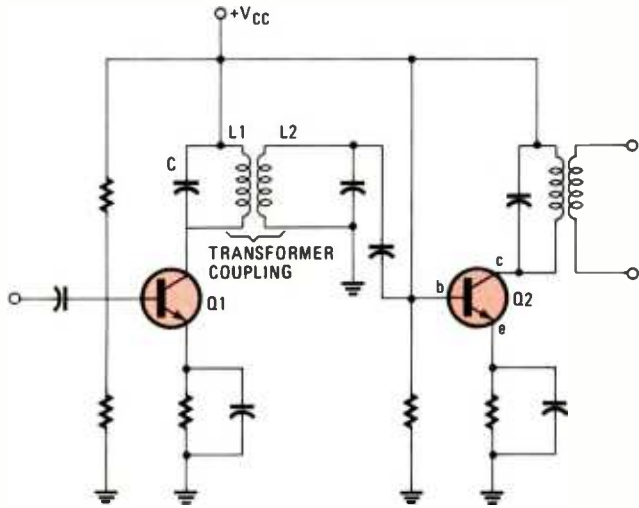

Fig. 16—RF amplifiers use tuned circuits to set the operating frequency and bandwidth. Transformer coupling is used between stages.
38. (2700) The frequency response of many amplifiers is deliberately controlled to pass signals only in a desired range. Amplifiers can be combined with low pass, high pass, band pass, or notch filters to set the bandwidth. Amplifiers that are used to amplify RF signals usually have built-in tuned circuits to amplify only signals in a narrow range of frequencies. A typical RF amplifier is shown in Fig. 16. The circuit is similar to those discussed previously, except that a parallel LC circuit replaces the collector resistor. Bias is obtained in the usual way. Note that in this circuit coupling between the two stages takes place by transformer action. Varying current in the collector of Q1 causes a varying magnetic field to be set up around L1, inducing a
39. (tuned circuits) Amplifiers like those in Fig. 16 are used in radio, TV, radar, and other receivers to amplify the RF signals and the intermediate frequency (IF) signals generated within the receiver.